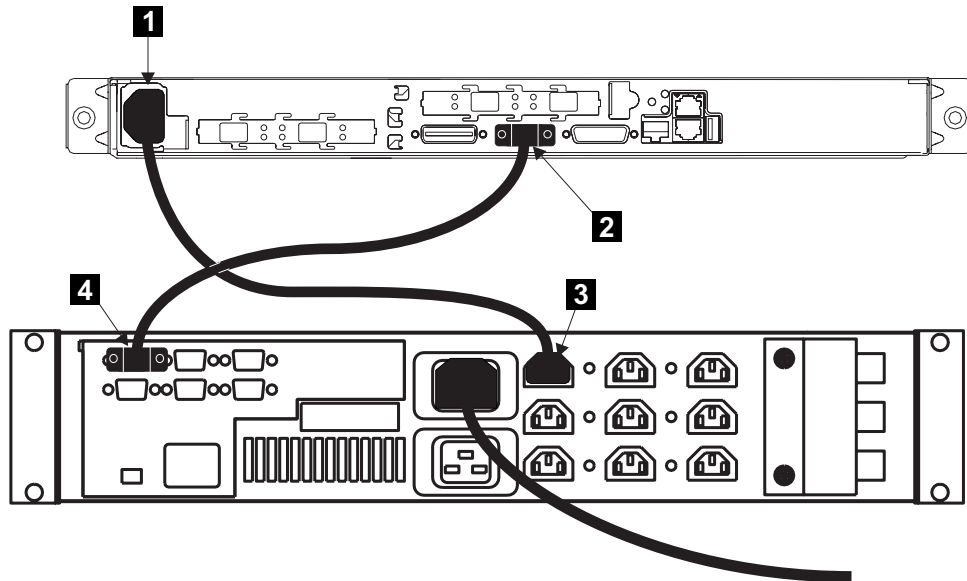

Figure 40. Connecting the SAN Volume Controller 2145-4F2 power cable to the 2145 UPS
1. At the back of the SAN Volume Controller 2145-4F2, plug a power cable into the power connector **1**. See Figure 40.